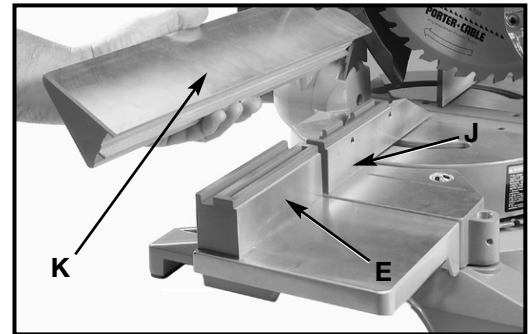

Fig. 7F
- Position the fence slide (K) Fig. 7F, in position on top of saw fence (J) and fence slide support (E). Slide fence slide (K) back and forth several times to check alignment of fence slide support (E). Make any necessary final adjustments to fence slide support.